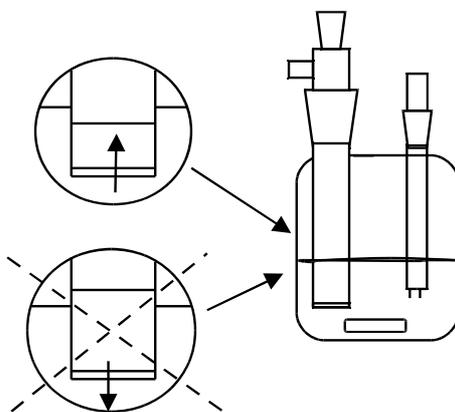

Figure 3: Filling of the vessel with a diaphragm
The rear panel (Figure 3) consists of following components: main switch (9), IEC power socket (10), connector of working electrode (11), connector of indication electrode (12), extension connector for additional modules (13), USB connector (14).